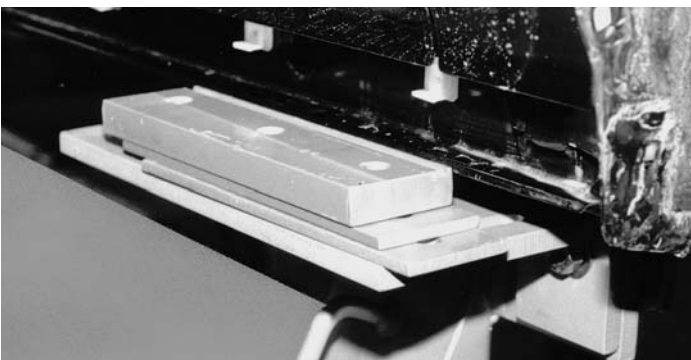

Figure 9
6. Position appropriate number of Mounting Flats on Adapter Plate. (See Figure 9.) Flat (GG) must be on top and its top surface must align with horizontal pinchweld. Also, its groove must face upward and lie next to the pinchweld.